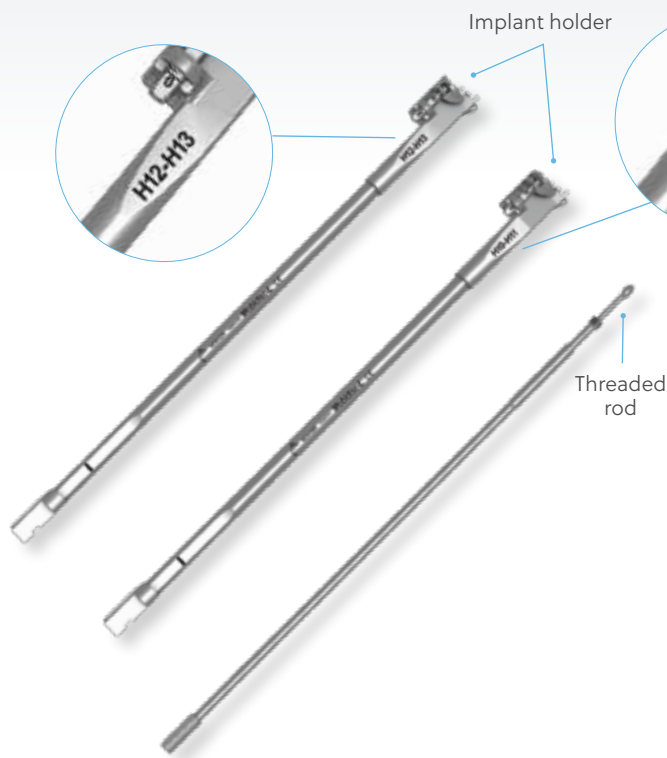

Figure 21
- Select the implant holder to the corresponding prosthesis height (H10-H11 or H12-H13) (Figure 21).